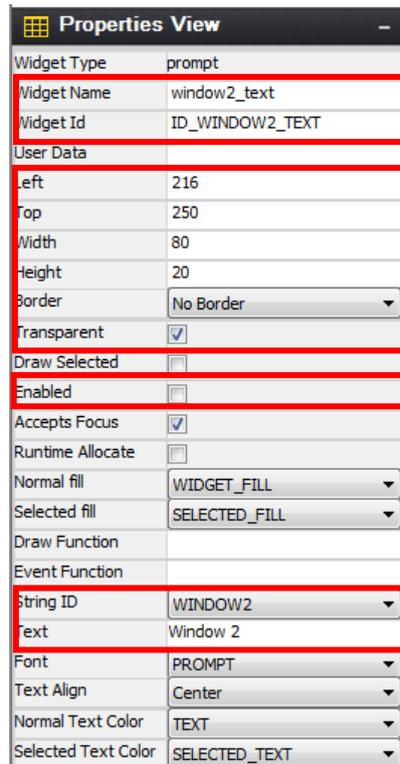

Figure 89 Configure Window Text Properties
37. In the Project View under window2, click on prompt_3 then modify the properties to match Figure 89.